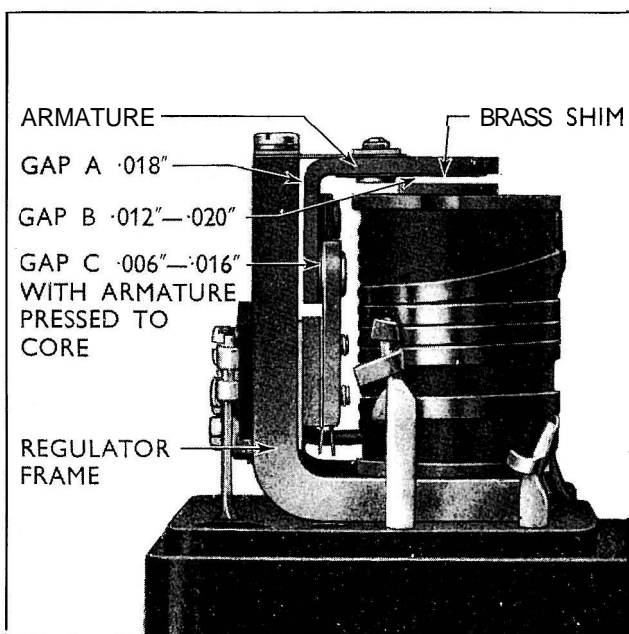

Fig. 242
- 5 Insert an 0.018 in. feeler gauge between the armature and the frame (gap A, Fig. 242) and an 0.020 in. feeler gauge between the armature and the core of the bobbin (gap B 0.012 in. to 0.020 in.).